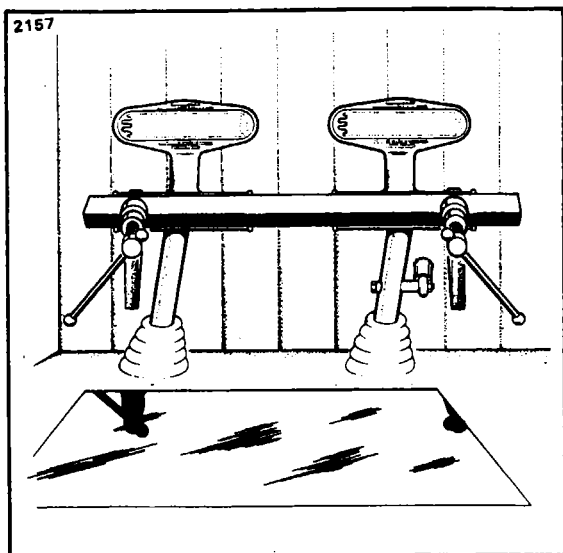

Figure 5-11. Clamping Rudder Pedals in Neutral
- c. Clamp the rudder pedals to align in a lateral position as shown in Figure 5-11.